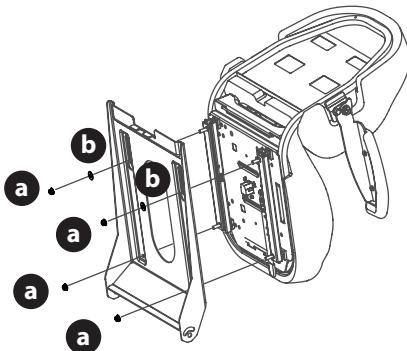

Figure 5
- b. For a Lever Adjust seat use flange lock nuts (a) and flat washers (b) (Figure 5).